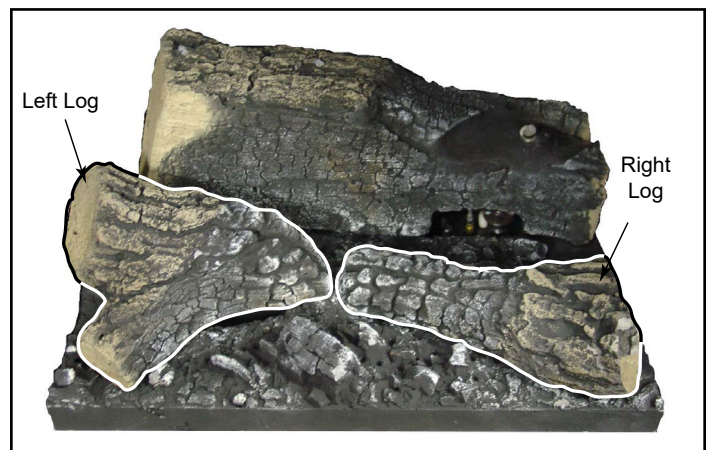

Figure 3.61 - Front Logs
3. Place the left front log on the pin locator on ember bed. Position the log over the air inlet hole and on notched out portion of ember bed, Figure 3.61.
4. Place front right log on ember bed by mating notch on bottom of log with raised notch on ember bed. Position over the air inlet hole and on notched out portion of ember bed, Figure 3.61.